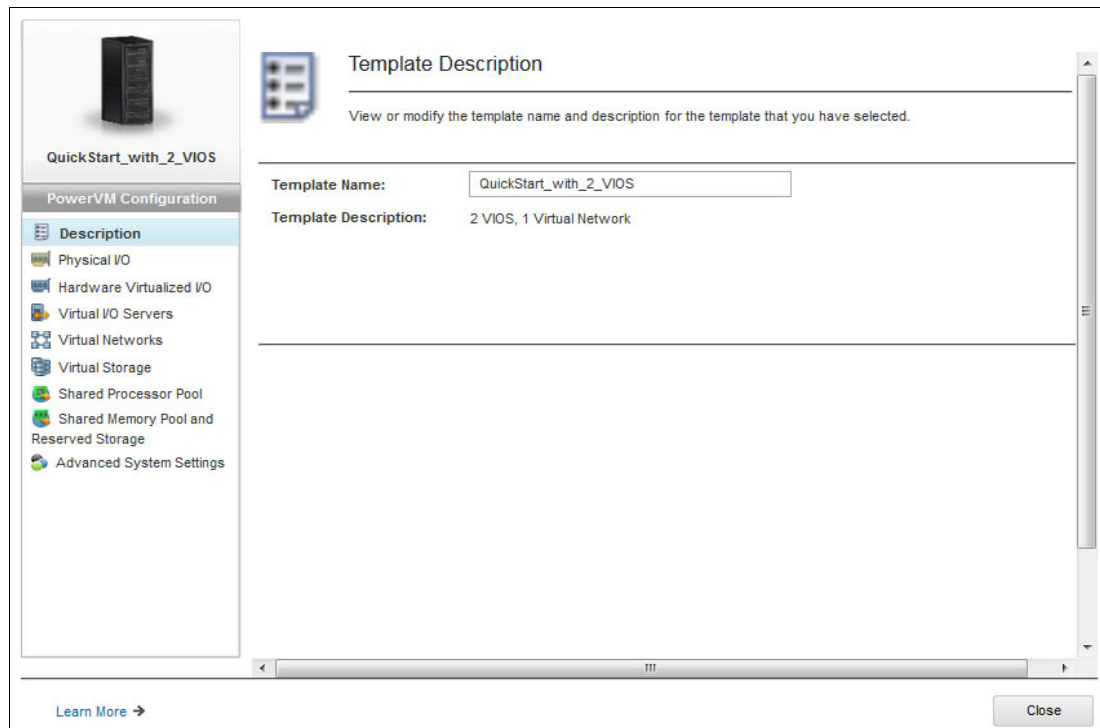

Figure 2-25 System template view
3. Select a template, right-click it, and select **View**. A new window opens (Figure 2-25). In this window, you can select options on the left to use the various capabilities of PowerVM. These capabilities include Physical I/O, Virtual Storage, and Shared Processor Pools.
When you select certain menu choices shown in Figure 2-25 on page 74, the following windows open, which show the capabilities of a system template: